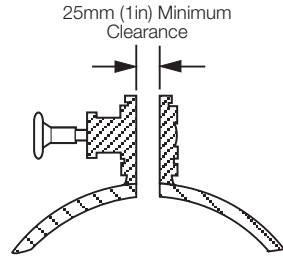

Fig. 2.10 Insertion Bore Clearance
2.5 Installing the AquaProbe – Figs 2.10 and 2.11